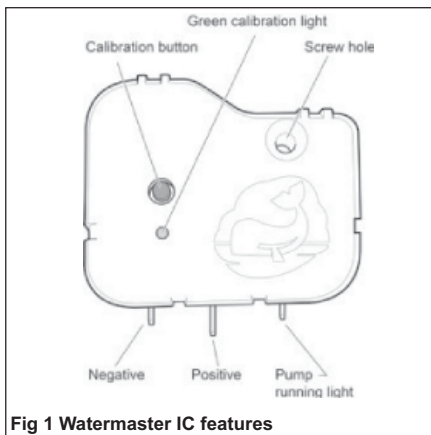
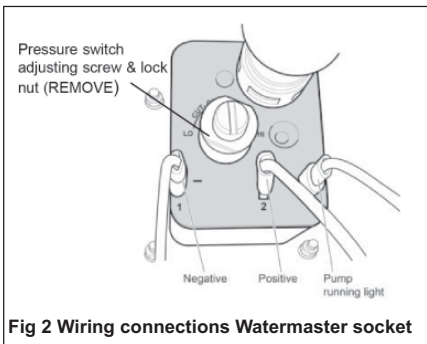

Fig 1 Watermaster IC features
Fig 2 Wiring connections Watermaster socket
### Putting into <<service>> Figure 1.
### Operation of the <<reserve>> Figure 2.
- Step 2 - Unplug the spade connections on the water inlet socket - ensuring that you note the order of wires for reconnection with the Watermaster IC (See Fig 1 and Fig 2).
- Step 3 - Unscrew and remove the pressure switch adjusting screw and locking nut (see Fig 2)